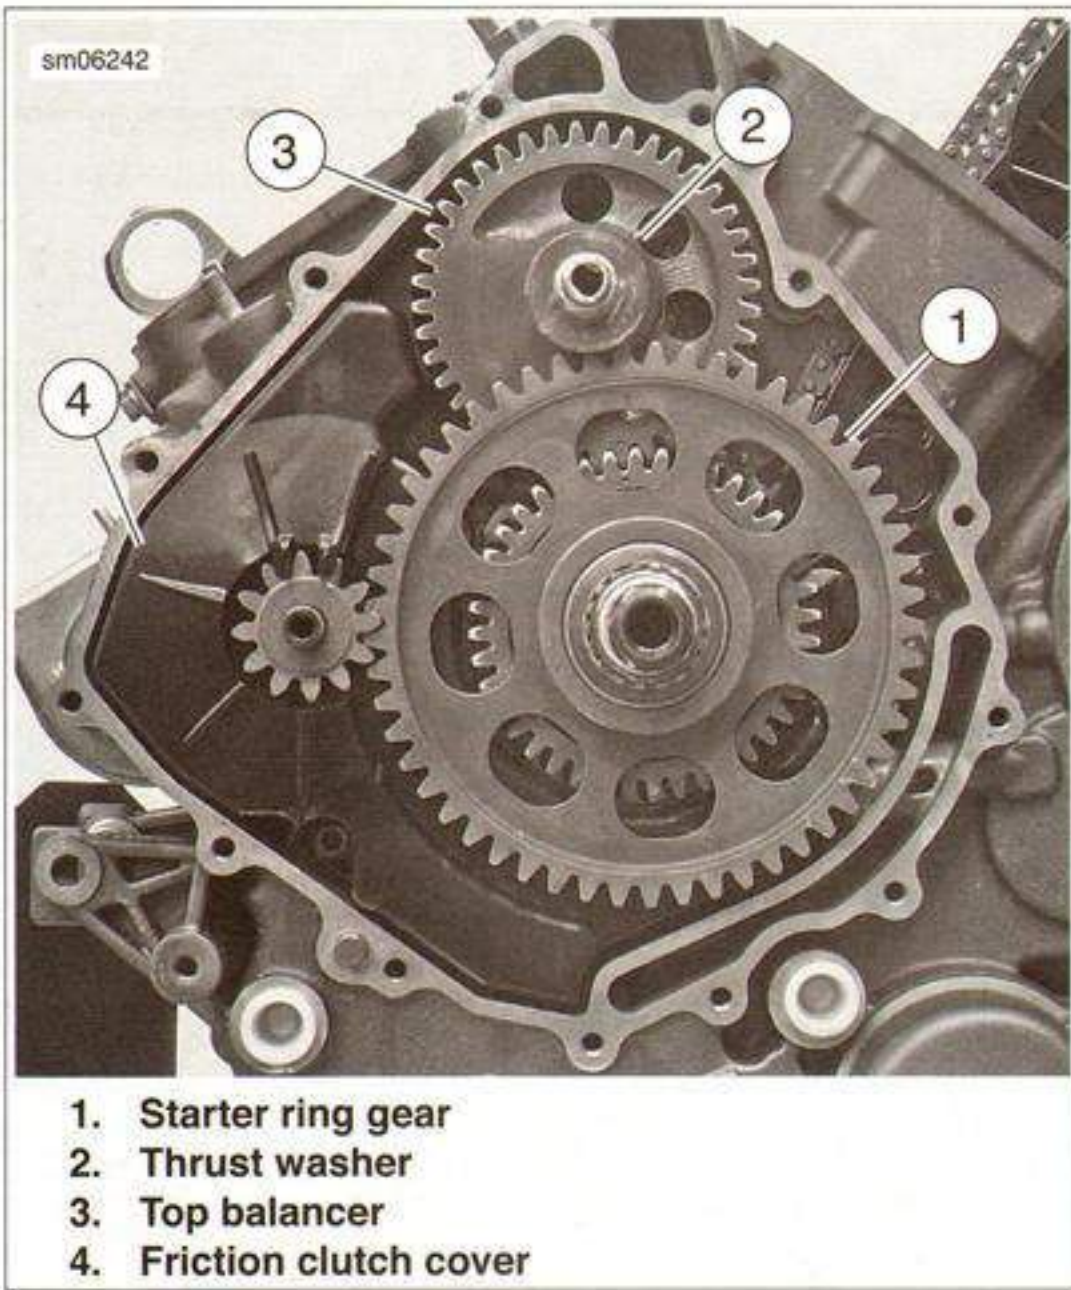

Figure 3-169. Alternator Side
5. See Figure 3-169. Remove starter ring gear (1), friction clutch cover (4), thrust washer (2) and top balancer (3).
1. See Figure 3-169. Loosen and remove crankcase fasteners in reverse order of assembly.